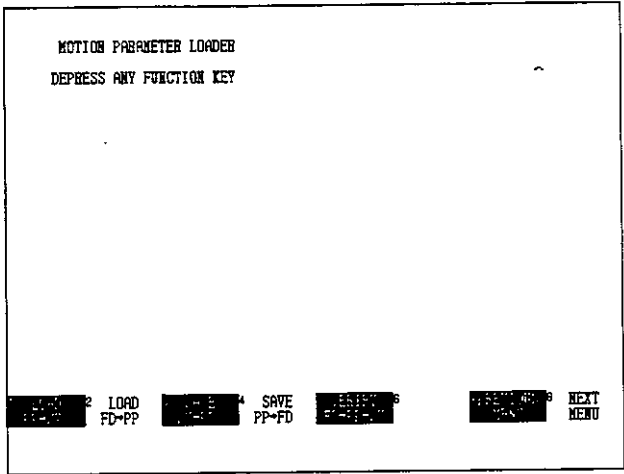

Figure 6.344
- 1) Display the Parameter Loader Screen shown in *Figure 6.344*.